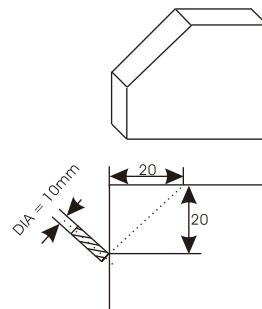

Figure 1
**For example:** machining the obliquity of the workpiece to 45 degree on X Z plane shown in Figure 1.